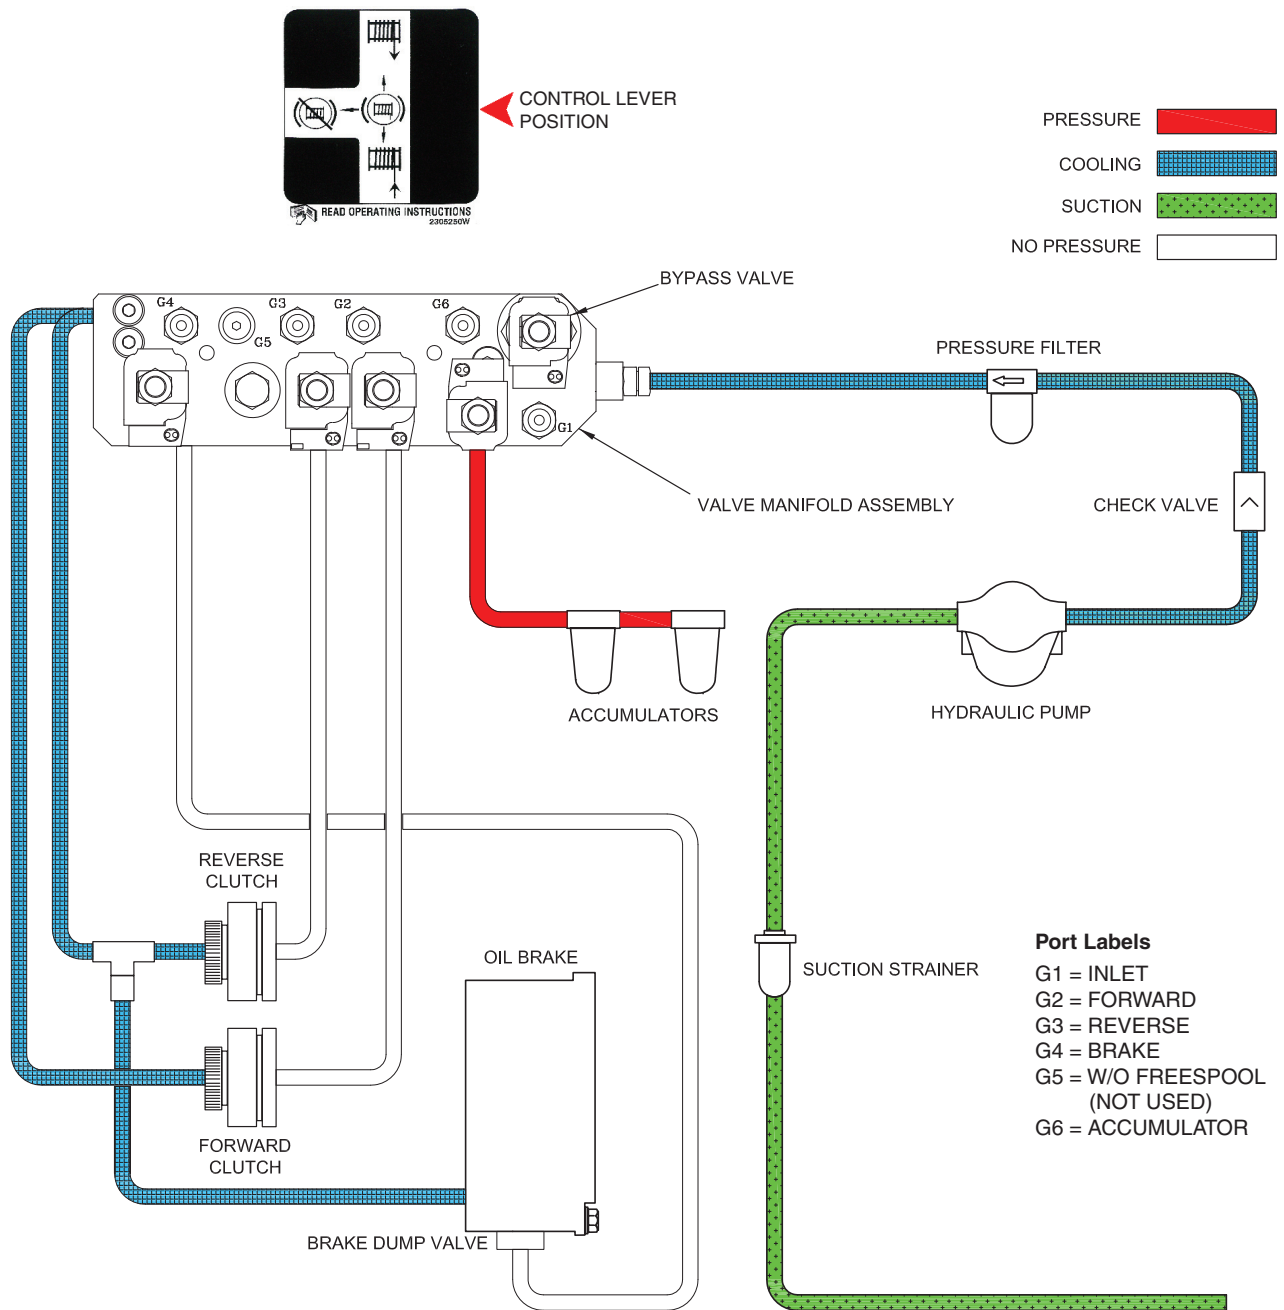

Figure 3-6 Hydraulic System - BRAKE-ON (Neutral)
The valve manifold assembly controls the flow of hydraulic oil to and from the clutches, and brake. Passages inside the valve body connect the oil flow with the functions that control the winch. Various cartridge solenoid valves within the manifold open and close passages to apply and release the clutches and brake (See Figures 3-2 through 3-5). See Figures 3-6 through 3-13 for gauge ports' connections and functions.
**NOTE:** Figures 3-6 through 3-9 show the sequences of operation for the older type of manifold (See Figure 3-2).